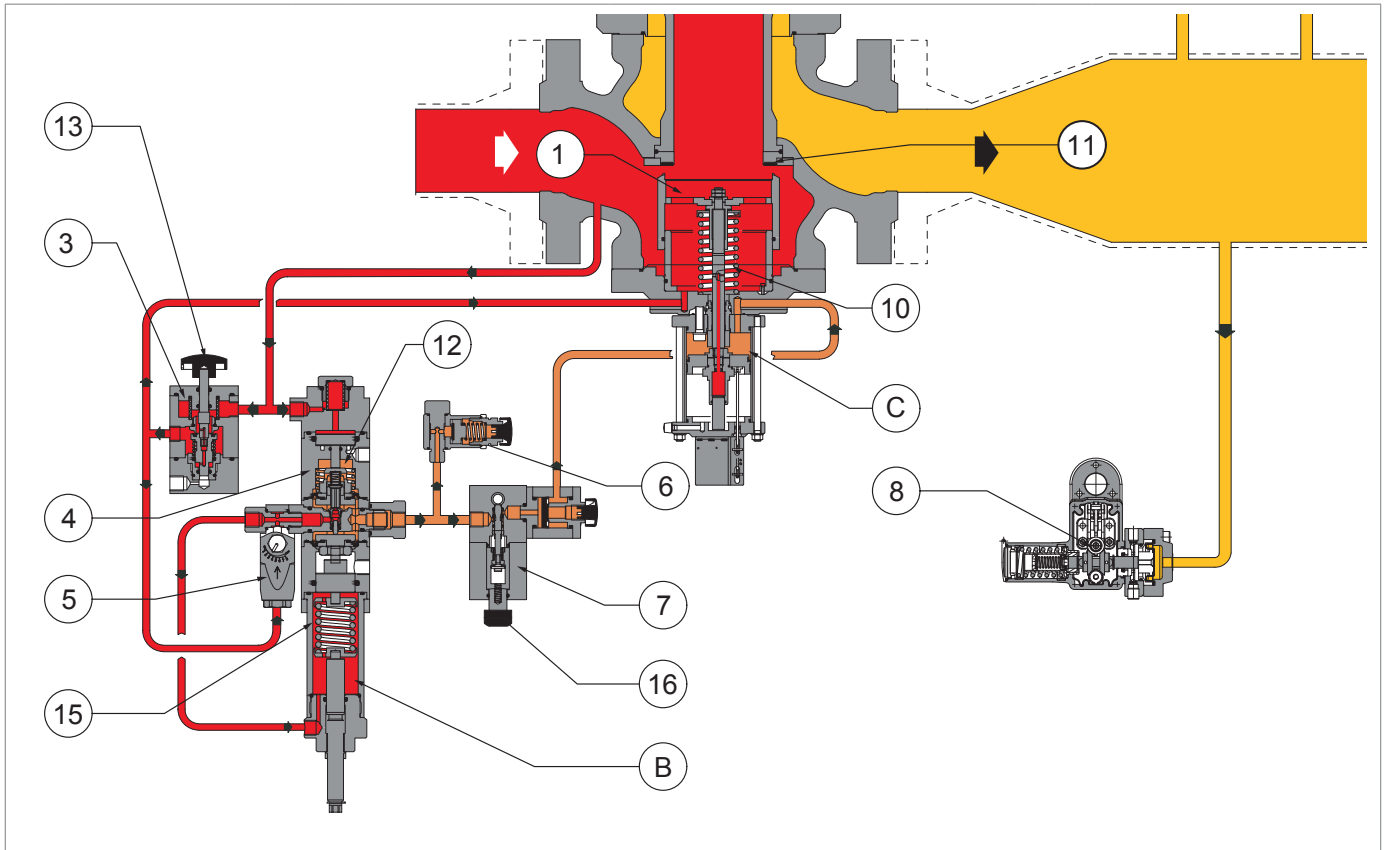

Fig. 4.12. REFLUX 819/FO with HB/97 incorporated slam-shut valve
The LINE OFF 2.0 device (3) consists of (see Fig. 4.12):